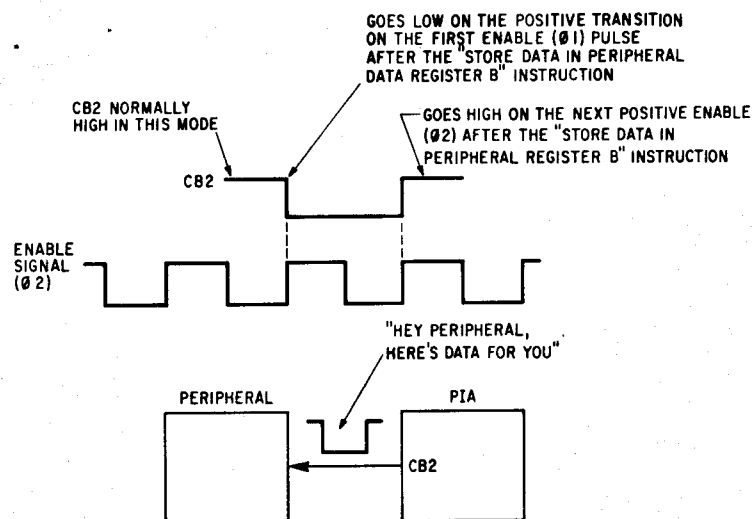

Fig. 9.20 Pulse mode
2. **Bit 5,3 of CRB = 101 (Pulse Mode)** This mode is used to tell the peripheral that data is available in PIA peripheral data register B (see Fig. 9.20).